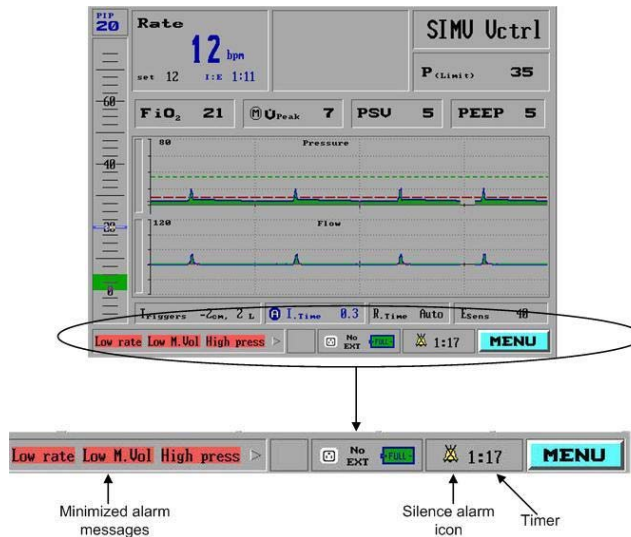

Figure 25: Status Window After Alarm Has Been Silenced
**Silence** is used to immediately mute the audible alarm and minimize the corresponding red message pop-up window. A two-minute timer is activated and displayed in the lower right corner of the display instead of the time-date field, alongside the silenced alarm icon (Figure 25).